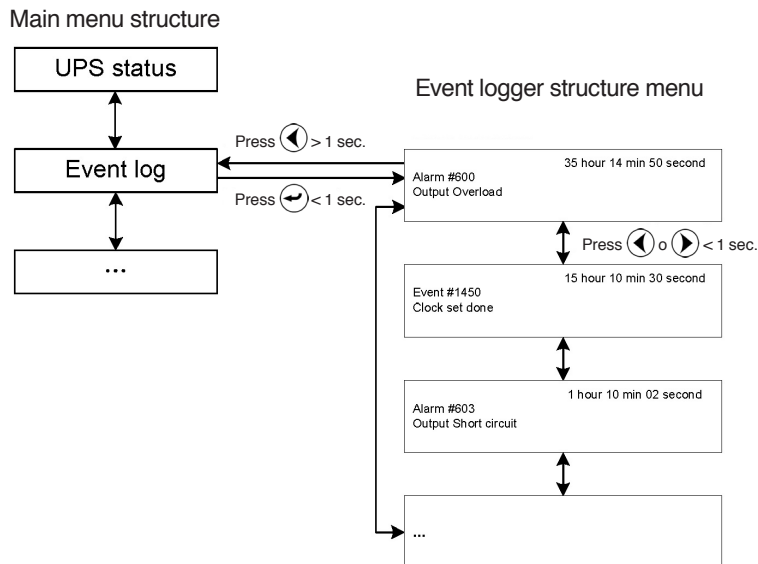

Fig. 35. Event logger submenu screens.
- When pressing the key for less than 1 sec. from the "Event log" screen, it is accessed to the event data logger structure (see figure 35).